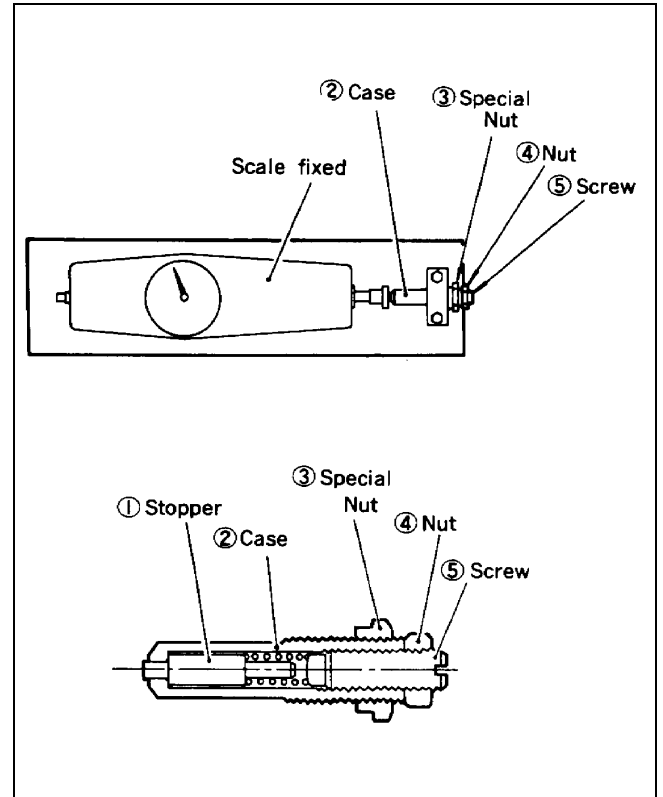
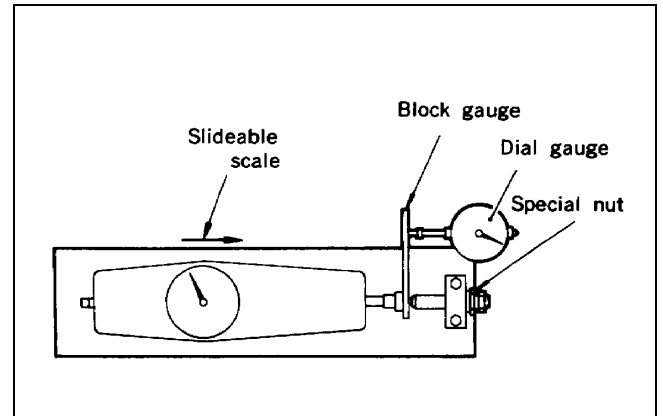

Figure 37
Figure 38
1. Assemble the torque spring set as shown in Figure 37.
3. Set dial on spring scale to zero (0). Tighten spring case until a value of 1270^{+10}_{-0} grams is obtained. Lock the spring case in that position with special nut.
5. To inspect torque spring set for proper adjustment, use a test set up as shown (Fig. 38). Gradually push scale against torque spring set until stopper is moved (or pointer of dial indicator moves). Check that load applied to torque spring at that moment is 1250^{+20}_{-30} grams.